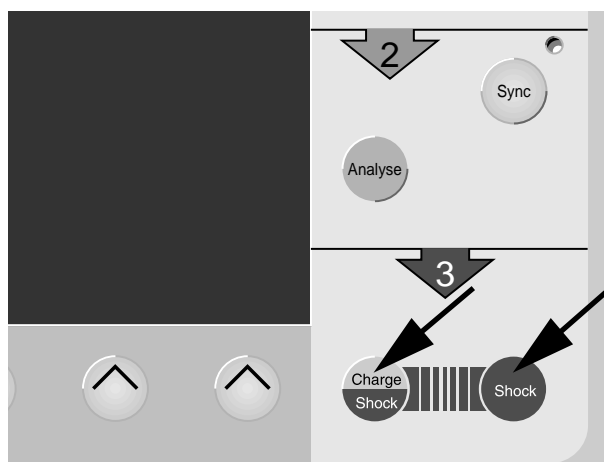

Figure 15-7. Buttons to deliver the shock
- Now trigger the shock within 30 seconds. To do so, simultaneously press the two buttons on the paddles (or  and  on the control panel, when using adhesive pads) (Figure 15-7).